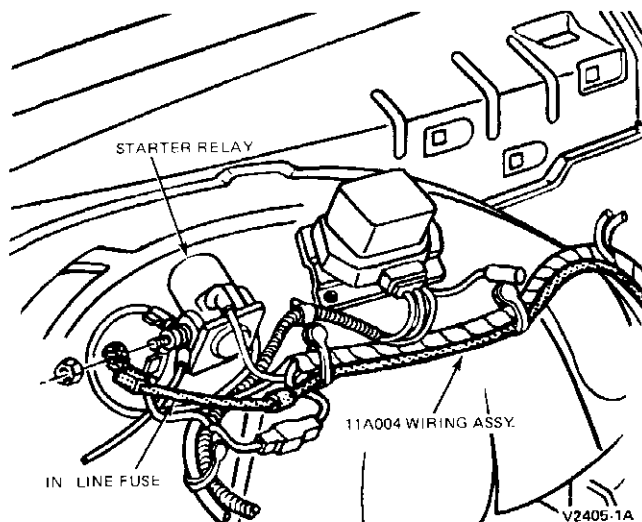

FIG. 6 In-line Fuse
3. If no fuel pressure is present in this test, check for blown in-line fuse in 11A004 wiring harness in engine compartment (Fig. 6).